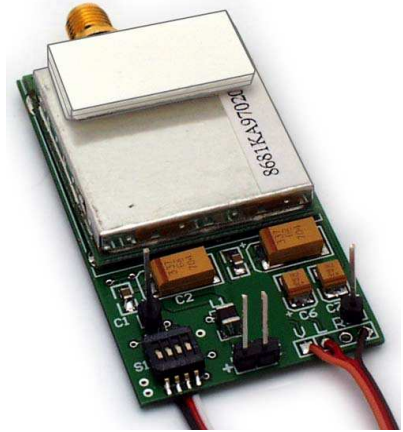

Figure 10, Foam Pad
- 10.3 See Figure 10. Cut the double-sided foam pad in half. Stack the two pieces together to form a thicker pad. Install the pad on the RF end of the Airwave module.